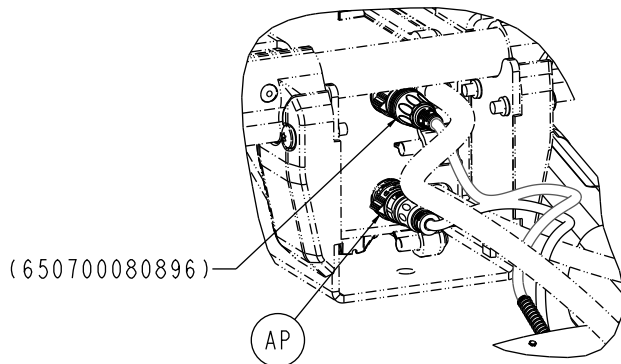

Figure 105 – Remove the solenoid/transducer external cable assembly
8. Remove the solenoid/transducer (AP) at the HBC via the quick disconnect (Figure 105).